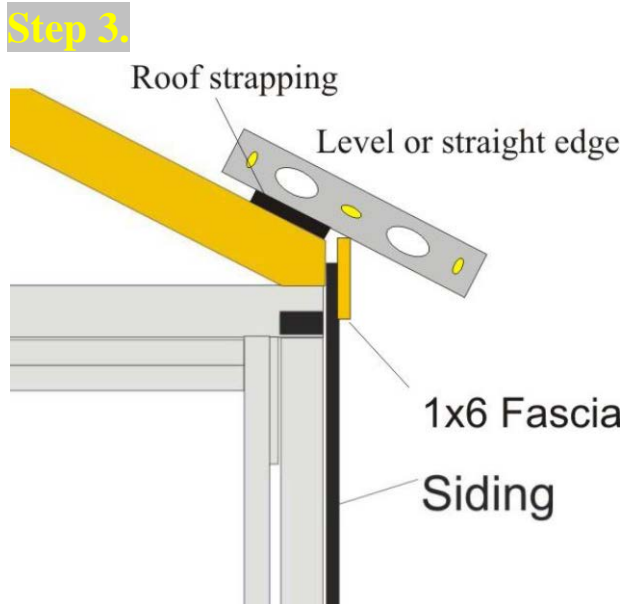

Figure 2
Step 2. Install the fascia on the bearing walls. When putting the fascia on the bearing walls, set a straight edge along the roof strapping to make sure the roofing material clears the trim boards. Figure 2. Fascia is nailed on using three 6d galvanized nails at each rafter.